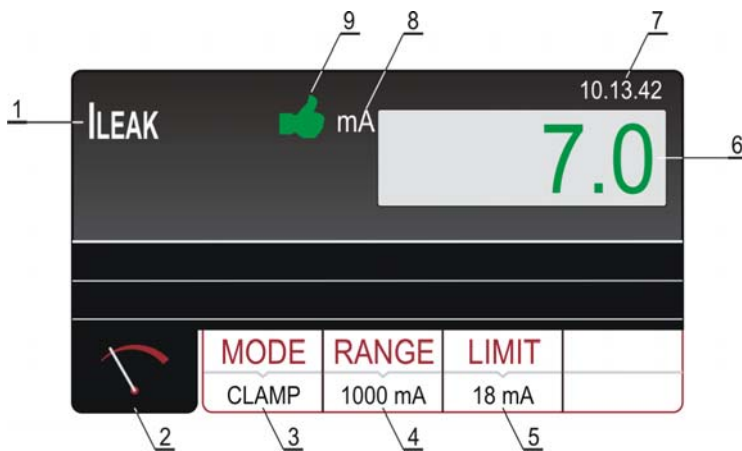

Figure 43: Display with ILEAK test result in CLAMP mode
- 7) Start the measurement by pressing the **START/STOP** button. The measurement will start to run and will be stopped after pressing the **START/STOP** button again. Measurement result will be currently displayed in green colour if it is lower than or equal to set limit value or in red colour if it is higher than set limit value. Final result will be equipped with green  symbol and with beep-beep sound if it is OK or with red  symbol and with longer beep sound if it is not OK. See the display outlook with test result on the figure 43.